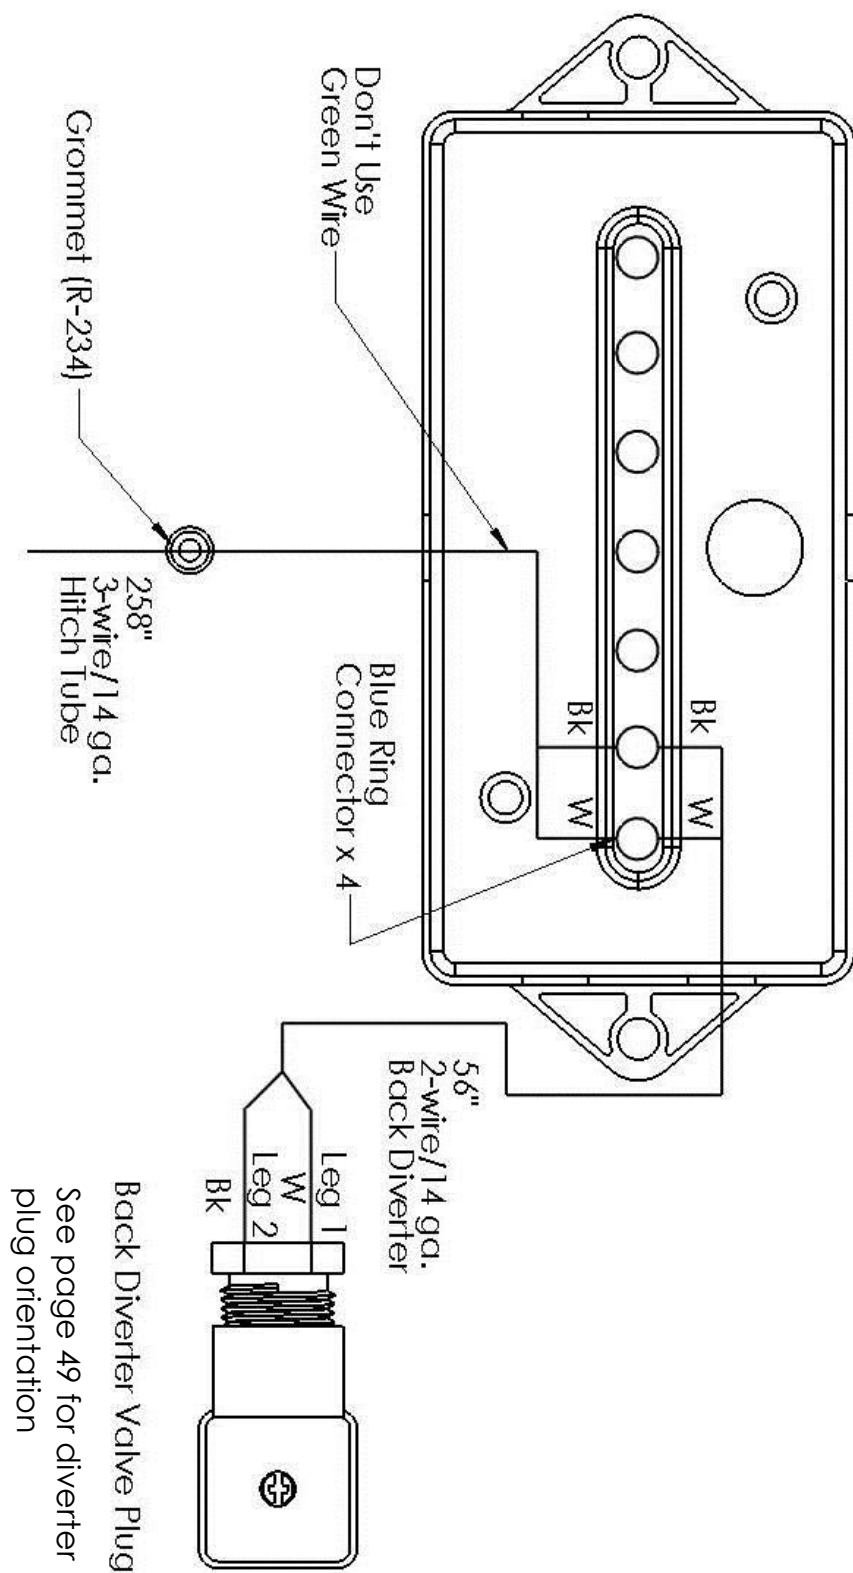

Figure 10 - Back junction box (S/N PD1192 & Down)
- e) Install the back diverter plug following figure 10.